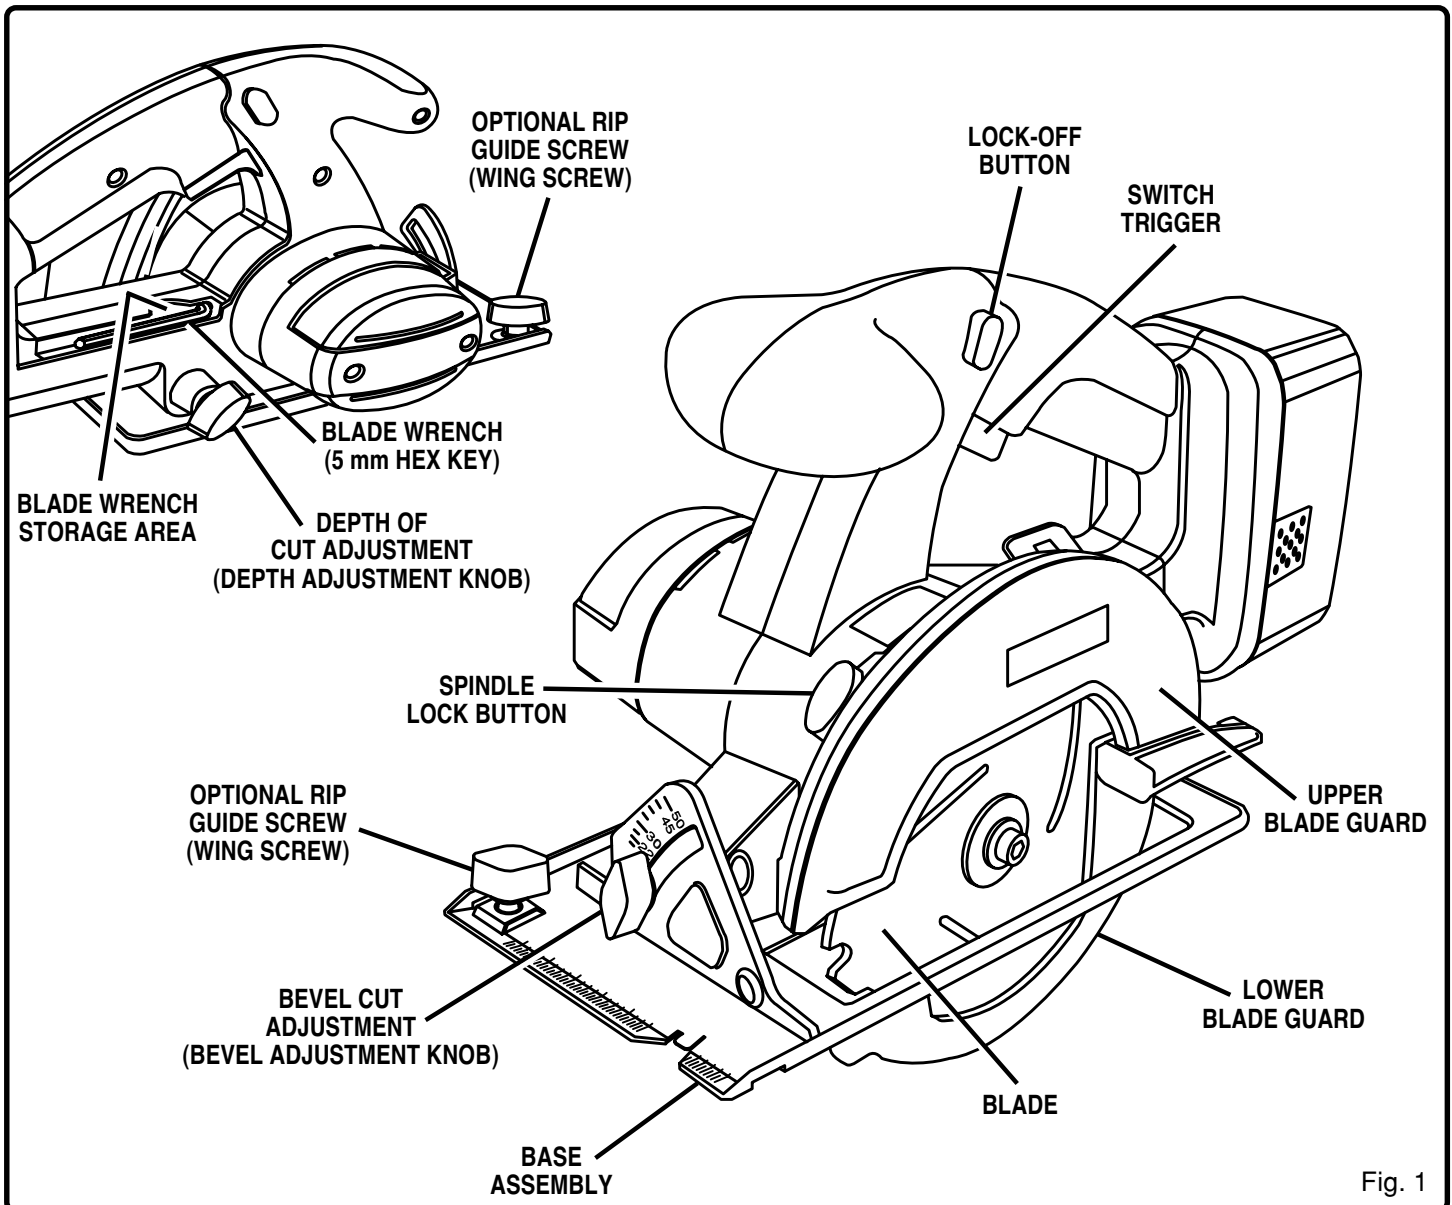

Fig. 1
See Figure 1.
- Remove blade wrench (5 mm hex key) from storage area. *See Figure 1.*